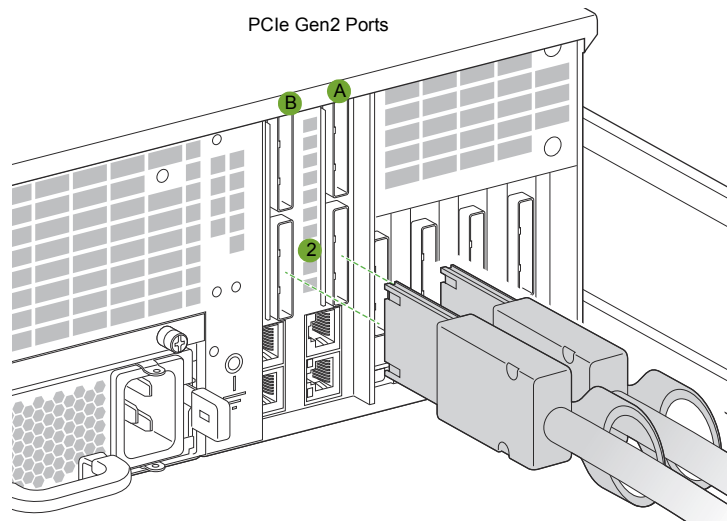

Figure 1.18 Connecting the PCIe Cables to the ACMs
1. Using the supplied PCIe cable, align the connectors of both ends of the PCIe cable with the bottom ports on the ACMs: ACM A port 2 and ACM B port 2, as shown in Figure 1.18.